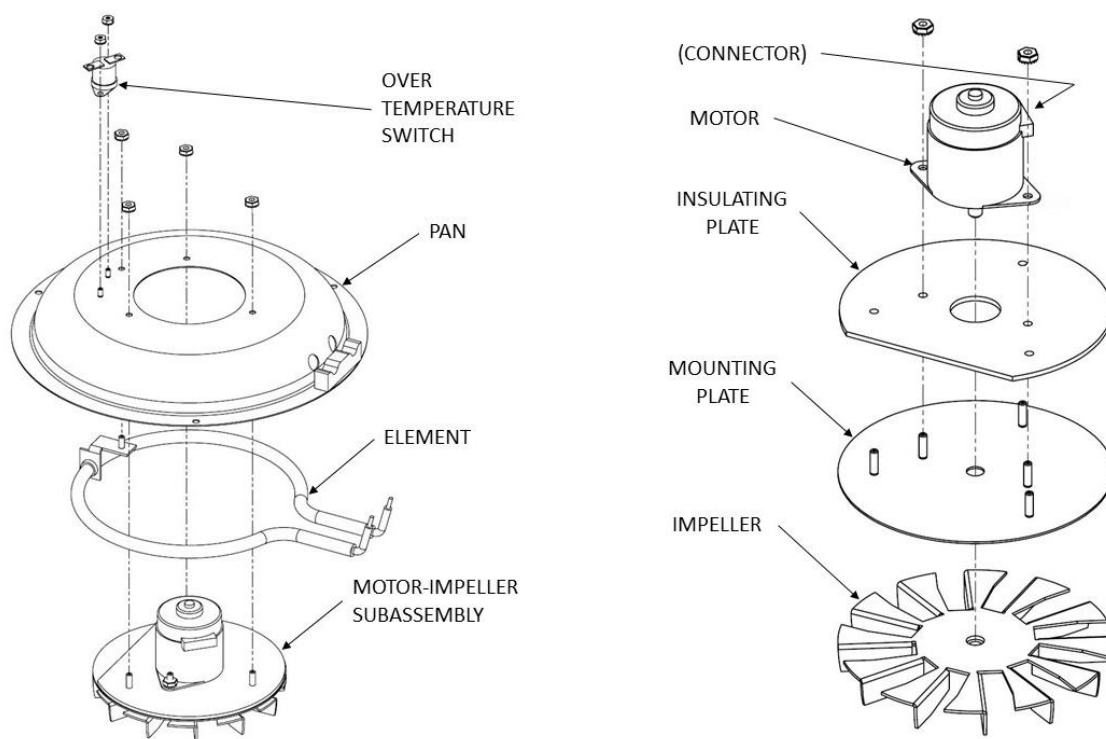

Figure 5.2. Heater Disassembly
To remove Heater Impeller Motor with Impeller as Subassembly (Figure 5.2):
To separate Heater Impeller Motor from Impeller (Figure 5.2):
To rejoin Heater Impeller Motor with Impeller (Figure 5.2):
To replace Heater Impeller Motor with Impeller as Subassembly (Figure 5.2):
To remove Element (Figure 5.2):
To replace Element (Figure 5.2)
- Locate the Switch. (Figure 5.2)